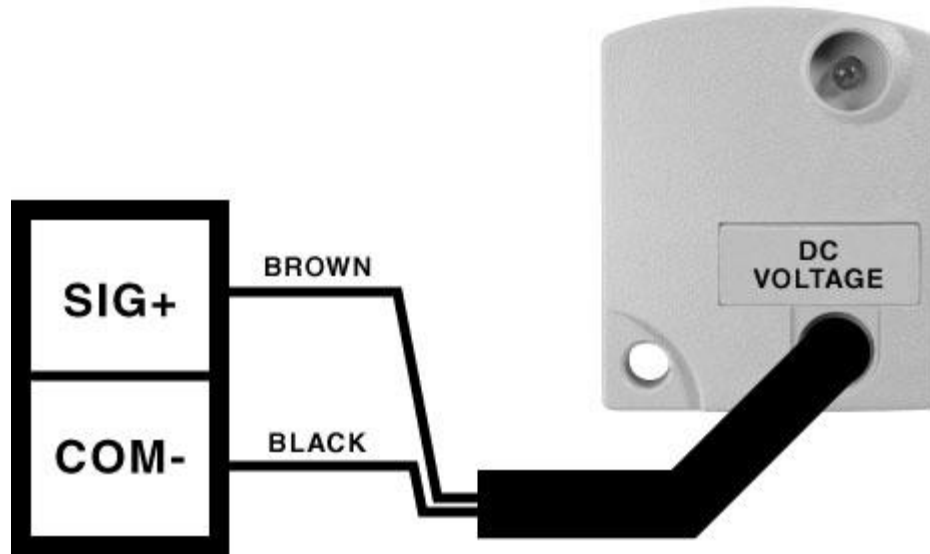

Figure 4.1: DC Voltage Wiring
1. Connect the cable supplied to the signal being measured - see Figure 4.1